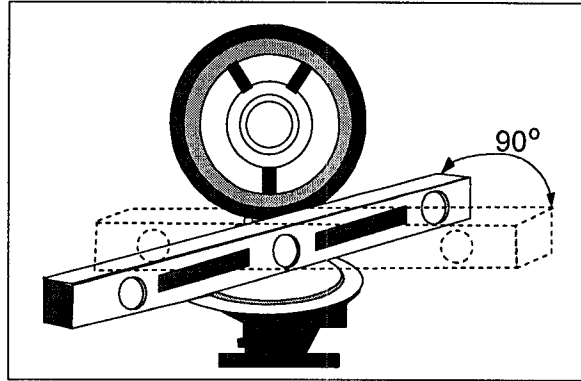

Figure 3-2
- d. With lens open, place a level on the flange of the lantern base. **The bubble level on the lantern shall not be used.** See Figure 3-2.